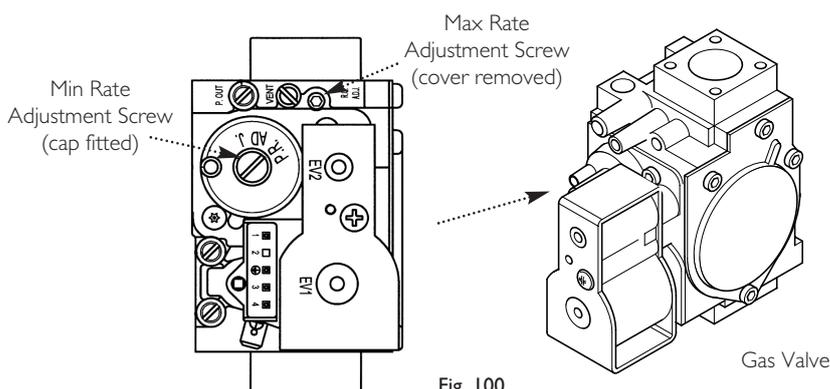

Fig. 100
8. It is possible to alter the CO2 by adjustment of the gas valve. Remove the plastic cover from the 'Max Rate' adjustment screw. At maximum rate the 'Max. Rate' adjustment screw should be turned, using a suitable hexagon key, until the correct reading is obtained (Fig. 100). Turning clockwise will reduce the CO2. Anticlockwise will increase the CO2.
10. With the boiler on minimum, the 'Min. Rate' adjustment screw must be altered, using a suitable hexagon key, after removing the cap (Fig. 100). Turning anti-clockwise will reduce the CO2. Clockwise will increase the CO2. If the CO2 is reset at either boiler rate it must be rechecked at the other rate and also adjusted if required.